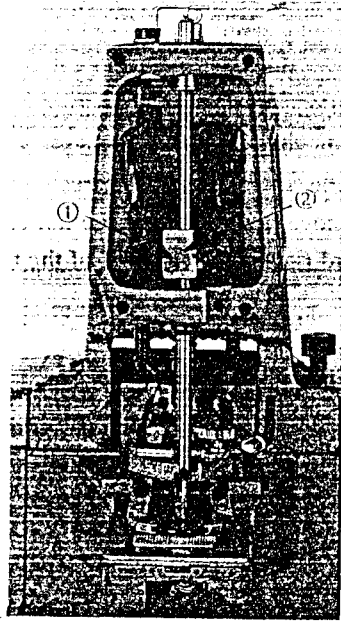

Fig. 11
## 12. ADJUSTING THE NEEDLE BAR (Fig.11, 12)
If it's not even, loosen the needle bar bearing block and thread guide clamp screw ① (Fig. 11) when the needle bar is at its lowest position and make the upper timing line even with the lower timing line of the needle bar lower bushing.